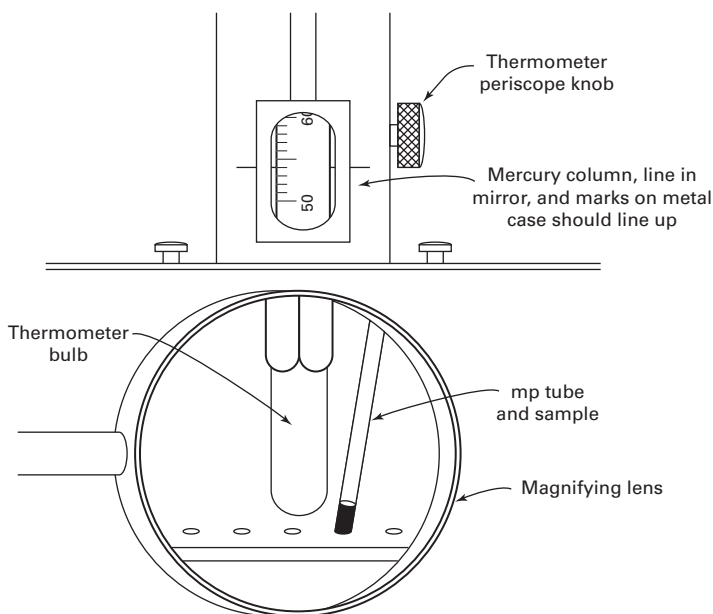

FIGURE 12.10 Reading the temperature.
13. When the first crystals *just start to melt*, record the temperature. When the *last crystal just disappears*, record the temperature. If both points appear to be the same, either the sample is extremely pure or the temperature rise was *too fast*. If you record the temperature with the horizontal index line in the mirror matched to the lines etched on both sides of the periscope window and the top of the mercury thread at the same time, you'll be looking at the thermometer scale head-on. This will give you the smallest error in *reading* the temperature (Fig. 12.10).